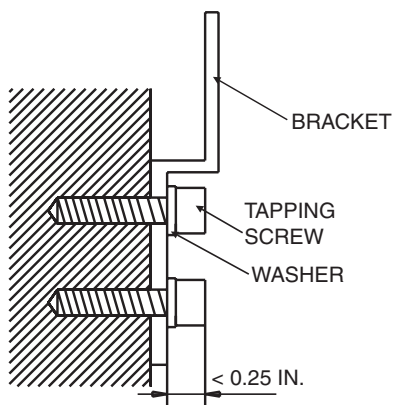

Fig. 11 — Mounting Brackets to Wall
1. Anchor the brackets at the specified location on the wall using the mounting screws. See Fig. 11.